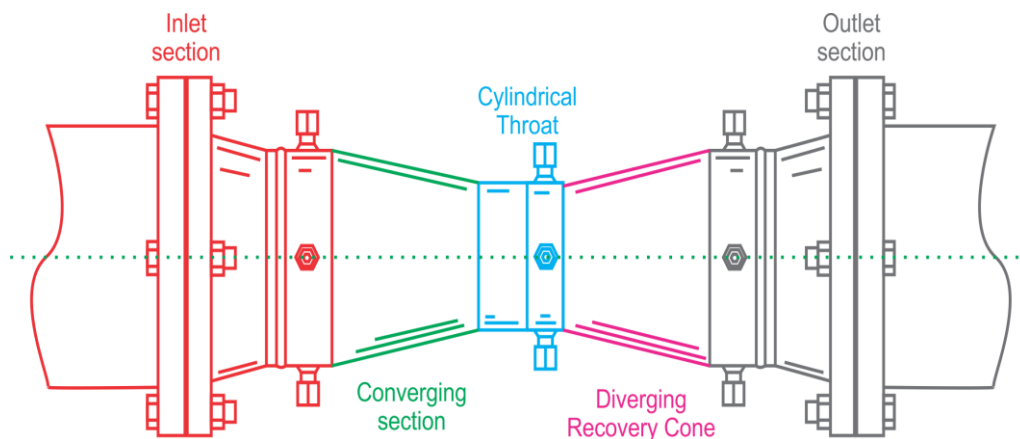

Figure 1. Venturimeter
2.1 Calculate the coefficient of discharge using the experimental setup, shown in figure 1.